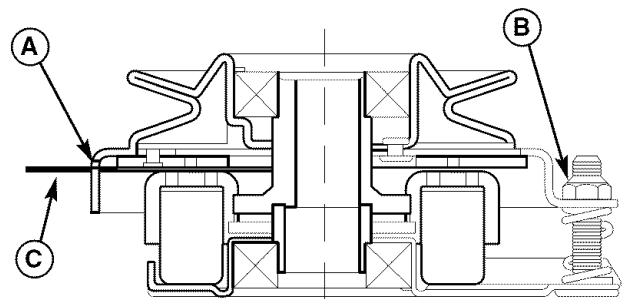

Figure 25. Adjust PTO Clutch
3. Insert a .012"-.015" (2,5-4mm) feeler gauge (C) through each window, positioning the gauge between the rotor face and the armature face as shown in Figure 25.
4. Alternately tighten the adjustment nuts (B, Figure 25) until the rotor face and armature face just contacts the gauge.